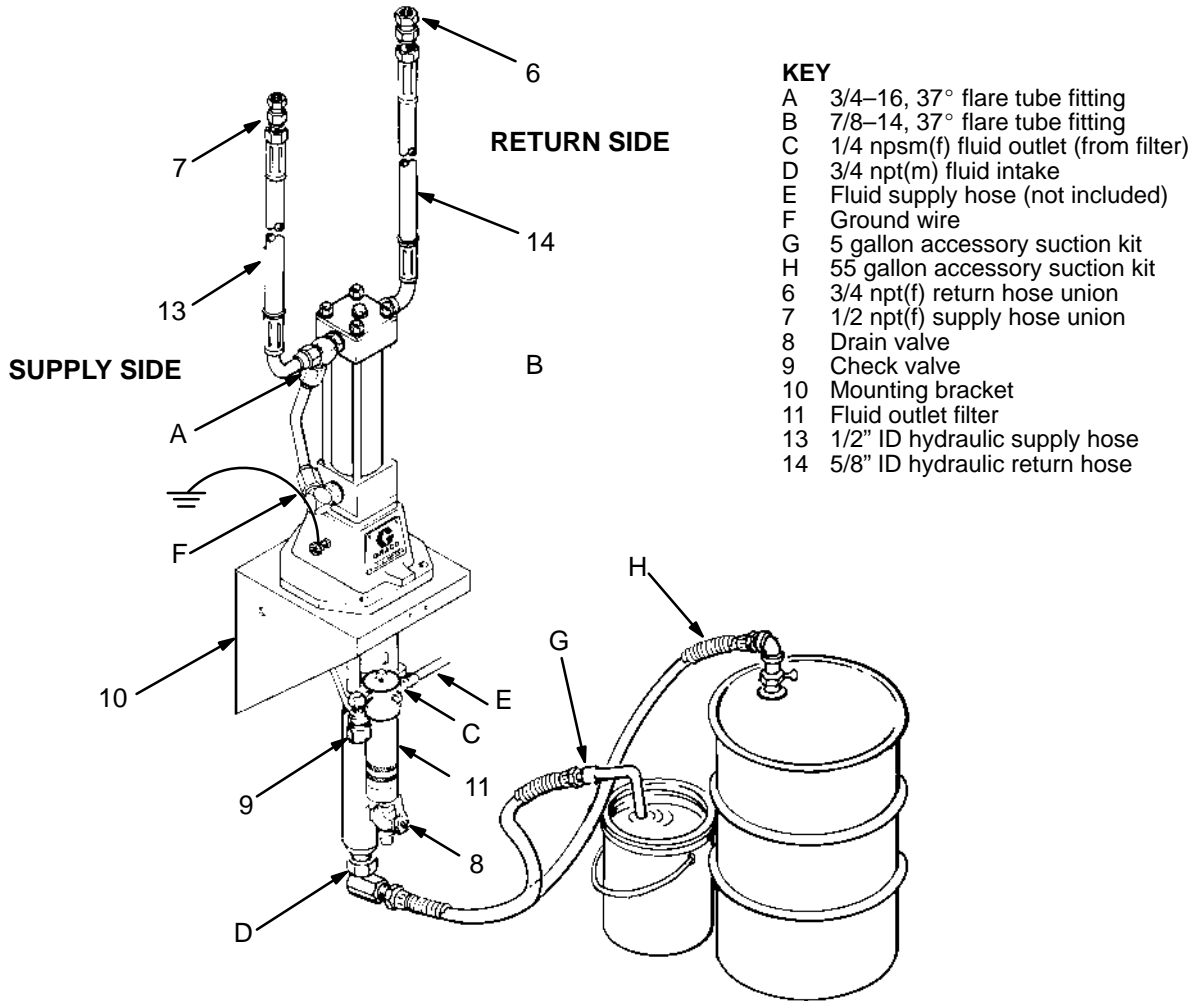

Fig 2
Connect the 1/2 in ID hydraulic supply line (2) to the 3/4-16, 37° flare tube fitting (A) of the hydraulic motor. See Fig 2. Connect a 5/8 in. ID return line (4) to the 7/8-14, 37° flare tube fitting (B). Install the hydraulic shutoff valves in the supply and return lines for use when removing the pump for inspection or service.
Attach the suction hose (17 or 28) to the 3/4 npt fluid intake of the pump (D). See Fig 2. Place the other end of the suction tube into the drum, as shown.